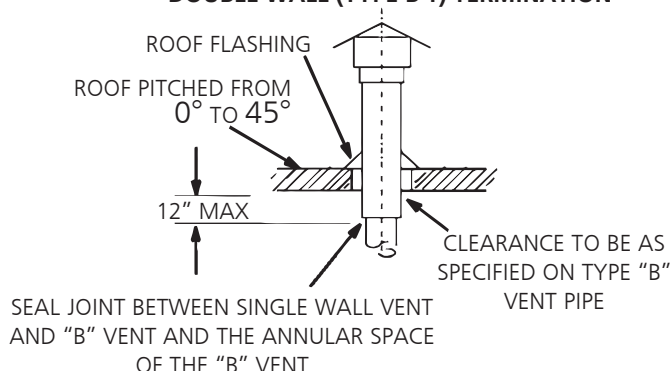

FIGURE 2
1. **US:** MHU unit heaters are to be used with NFPA- or ANSI-approved chimneys, U.L. listed type B-1 gas vents, single wall metal pipe, or listed chimney lining system for gas venting where applicable, as well as the modifications and limitations listed in figure 2. Seal single wall vent material according to the section A - General Recommendations and Requirements.
8. When termination is routed through an exterior combustible wall the vent must be supported using a listed clearance thimble. Seal the connection between the single wall and double wall pipes and the annular space of the double wall pipe as shown in figure 2. Inside edge of vent termination tee must be at least 12 inches from outside wall as shown in **figure 3**.